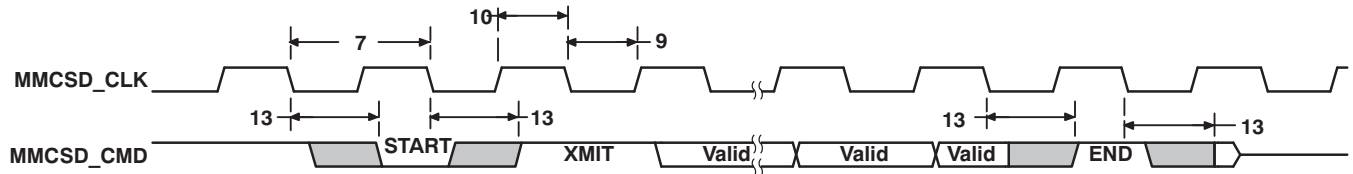
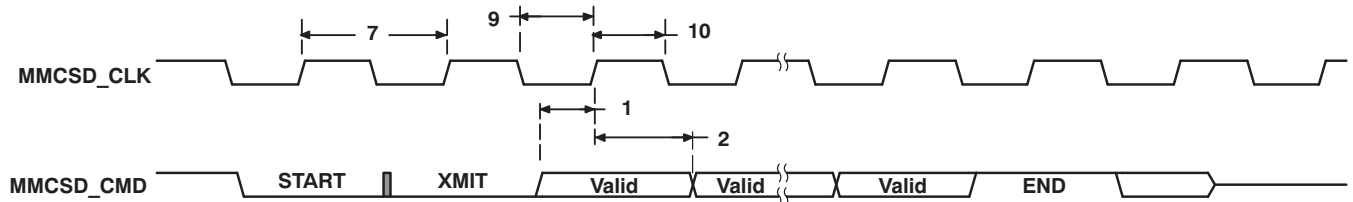
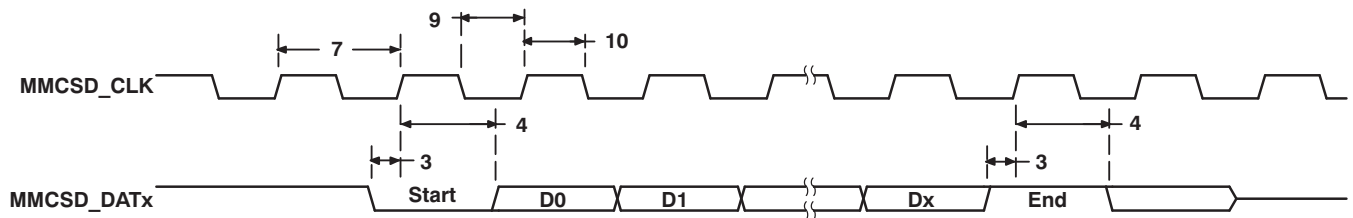

Figure 6-26. MMC/SD Host Command Timing
Figure 6-27. MMC/SD Card Response Timing
Figure 6-29. MMC/SD Host Read and Card CRC Status Timing
(see Figure 6-27 and Figure 6-29)
**Table 6-41. Switching Characteristics for MMC/SD** (see Figure 6-26 through Figure 6-29)